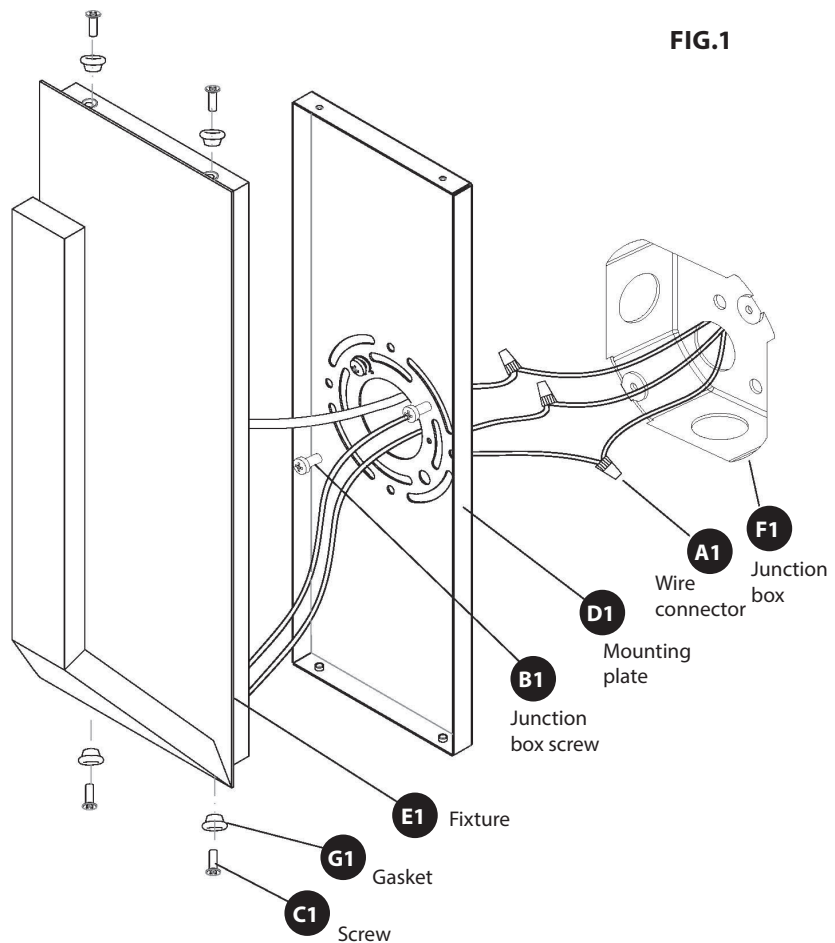

Fig.2 Wiring
4. Connect the electrical wires as shown in Fig. 2, making sure that all wire connectors (A1) are secured. Fixture and junction box ground wires should be connected to mounting plate using green screw provided. Tuck wires carefully inside the junction box.